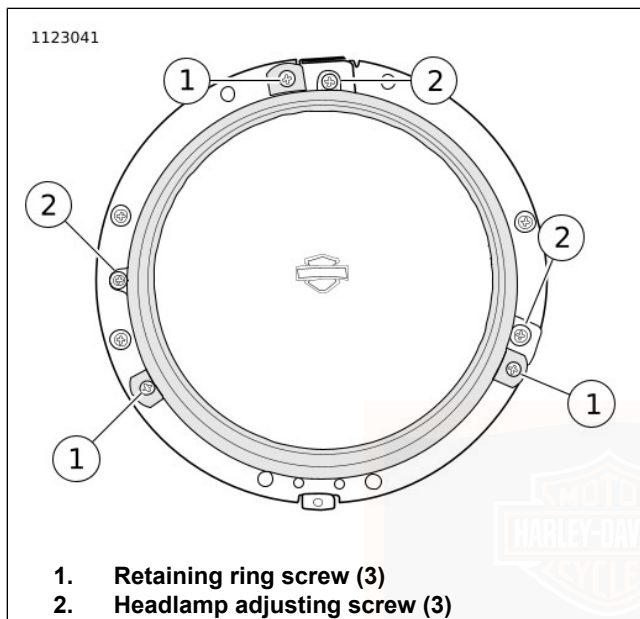

Figure 99. Headlamp Retaining Ring
2. Figure 99 Secure headlamp assembly with retaining ring and screws (1). Tighten.